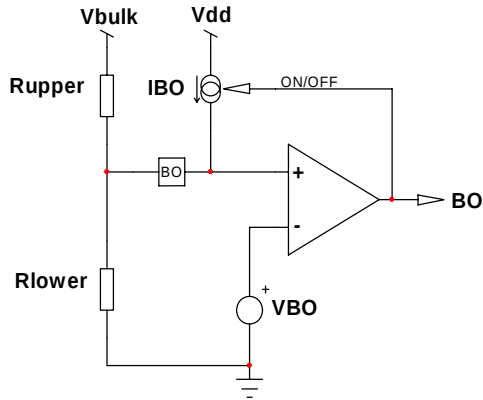

Figure 43. The internal brown-out configuration with an offset current source
circuitry, depicted by figure 43, offers a way to observe the high-voltage (HV) rail. A resistive divider made of R_{upper} and R_{lower} , brings a portion of the HV rail on pin 5. Below the turn-on level, the $27\mu A$ current source IBO is off. Therefore, the turn-on level solely depends on the division ratio brought by the resistive divider.